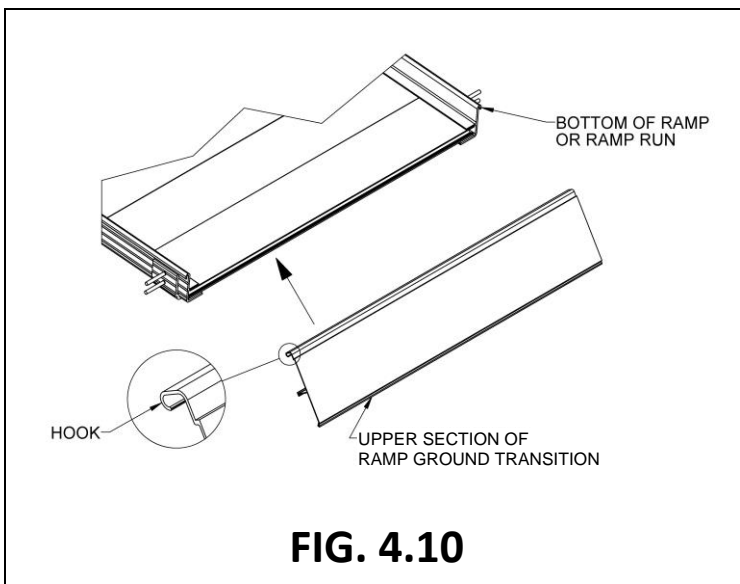

FIG. 4.10
4.5.2. Lift the lowest end of the ramp/ramp run and bring the upper section of the PRGT into the ramp end tread until the “hook” is engaged (FIG. 4.10).